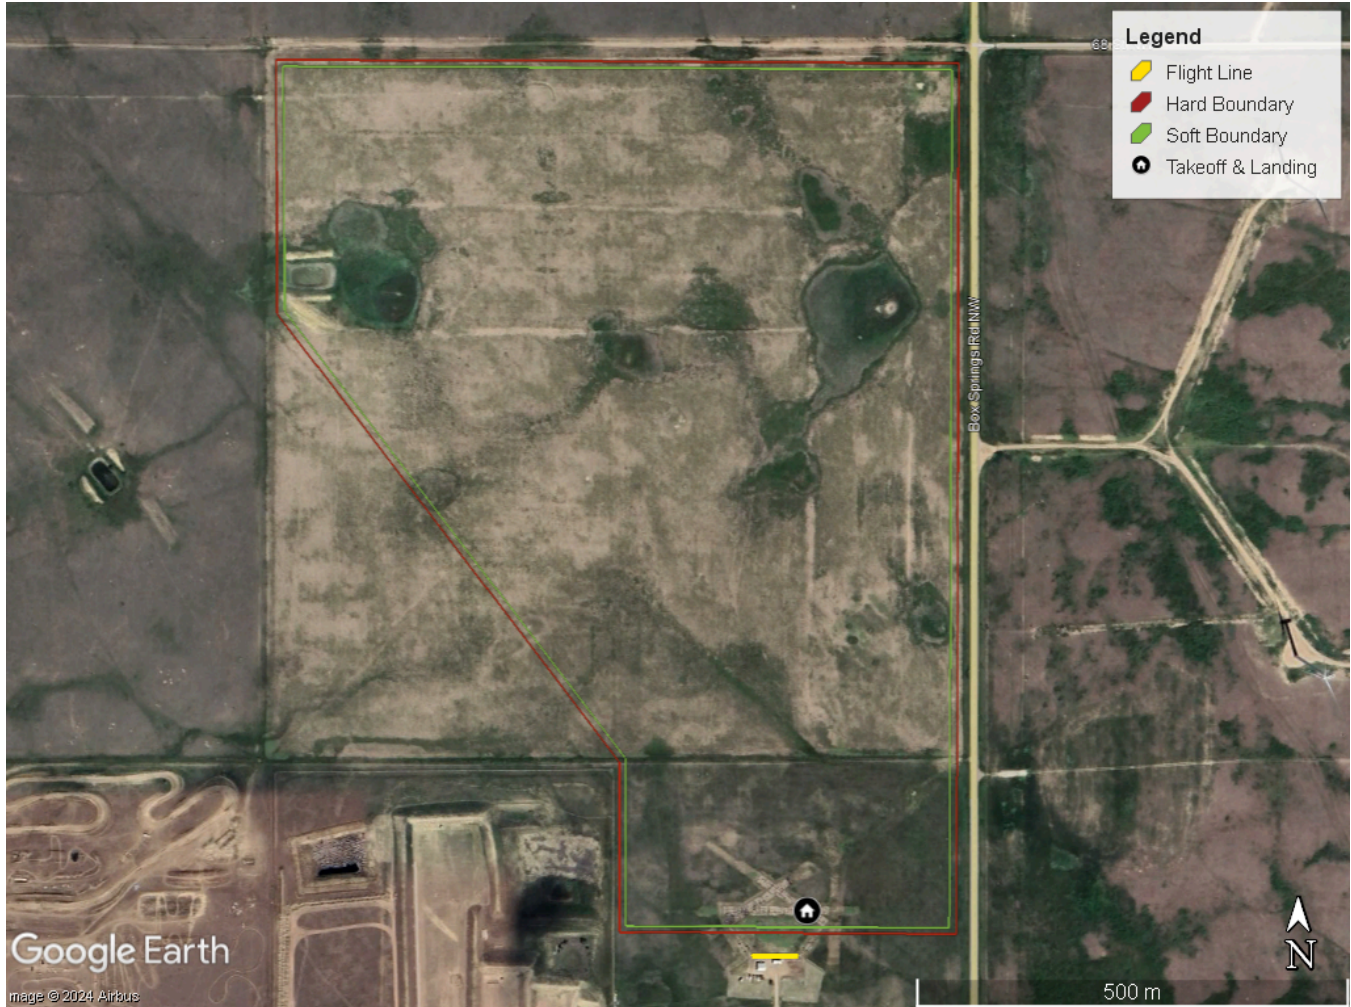

Figure 2: Task 1 and 2 Boundaries
15. Bidders are provided in this document with flight boundaries. The coordinates are available in Annex C. Flight boundaries can be viewed from this link: https://www.google.com/maps/d/u/2/edit?mid=1pX1Q-1K0rUGIESKGk_kLibJQnIJOVmk&usp=sharing, and are shown in Figure 2. Bidders will receive a warning to turn around if they go outside the soft boundary. Bidders are required to kill their UAV if it goes outside the hard boundary.
18. Bidders are provided in this document with flight boundaries. The flight boundaries for Task 2 are the same as for Task 1. The coordinates are available in Annex C. Flight boundaries can be viewed from this link: https://www.google.com/maps/d/u/2/edit?mid=1pX1Q-1K0rUGIESKGk_kLibJQnIJOVmk&usp=sharing, and are shown in Figure 2.